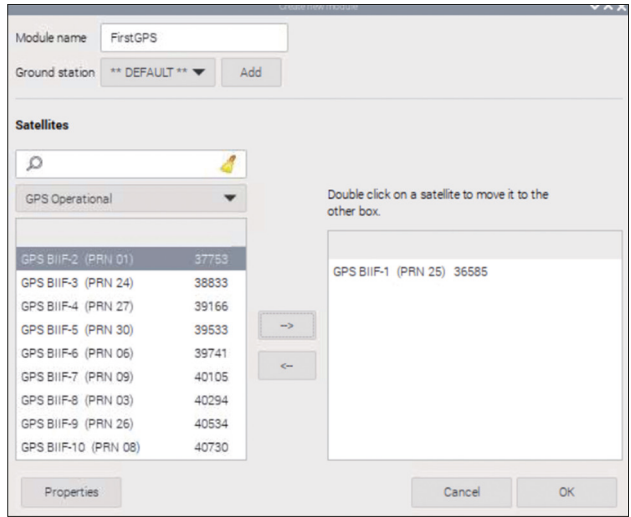

Figure 17.4: Selecting a GPS satellite.
- Choose a satellite. e.g., **GPS Operational**, GPS BIIF-1 (PRN 25). Double-click on the satellite name at the left pane or click on the satellite name and click the right arrow to move the satellite name to the right pane (Figure 17.4).